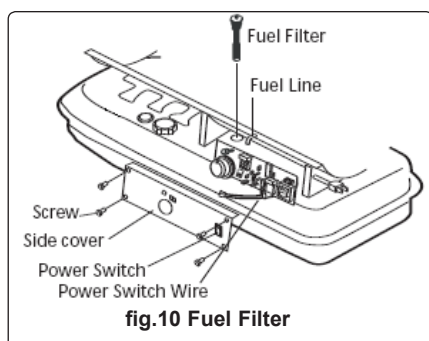

fig.10 Fuel Filter
6.5 Fuel filter. The fuel filter (fig.10) should be cleaned twice per season, unless contamination occurs where it will require cleaning immediately. To clean the filter, remove and wash in paraffin.